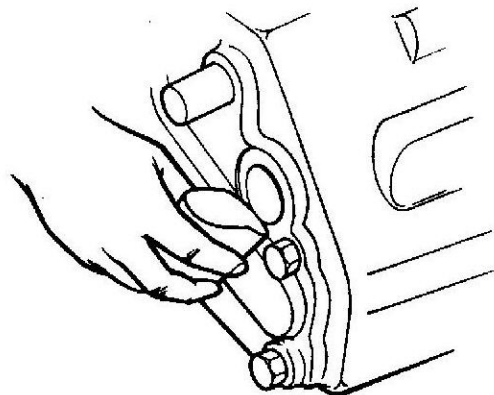

Fig. 1 Collecting Excess Lubricant with Paper Cup.
- (1) Obtain a paper cup and remove lip so excess transfer case lubricant can be caught when fill plug is removed.
- (2) Remove transfer case fill plug and catch all excess oil that flows out filler hole (see fig. 1). Pour excess oil into measuring cup graduated in ounces.